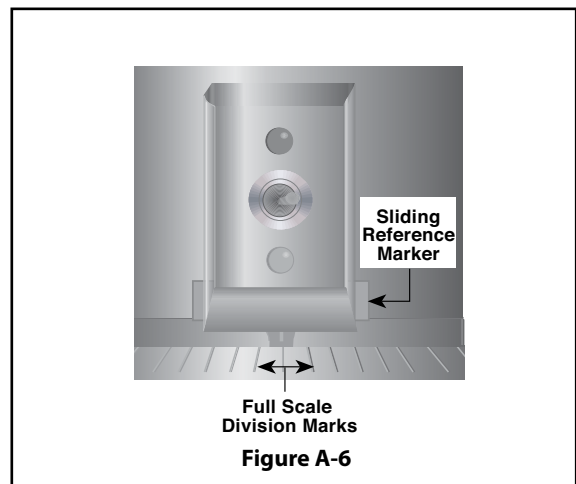

Figure A-6
4. Adjust the sliding reference marker, right or left, to the closest full scale division mark (see **Figure A-6**).